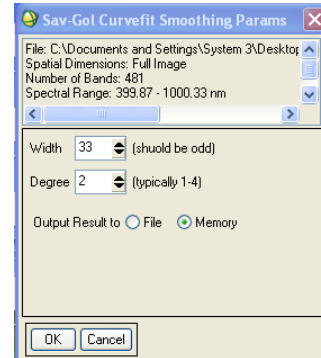

Figure 2. Sal-Gov Curvefit Params box
3. Select the image in the Select input file dialog, or click Open, New. click OK. The Sav-Gol Curvefit Smoothing Params box will open (Figure 2).